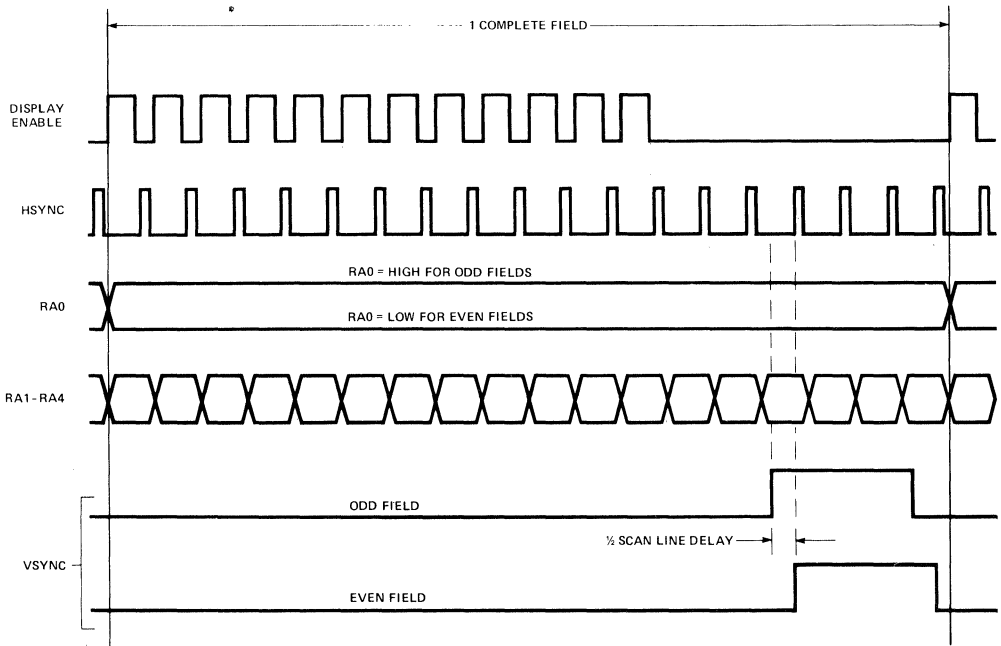

Figure 12. Interlace-Sync-and-Video Mode Timing
- c) **Interlaced Sync and Video Mode.** This mode is used to double the character density on the screen by displaying the even lines in even fields and the odd lines in odd fields. As in the Interlace-Sync mode, the VSYNC position is delayed in alternate display fields. In addition, the address generation is altered. Figure 12 illustrates the timing.